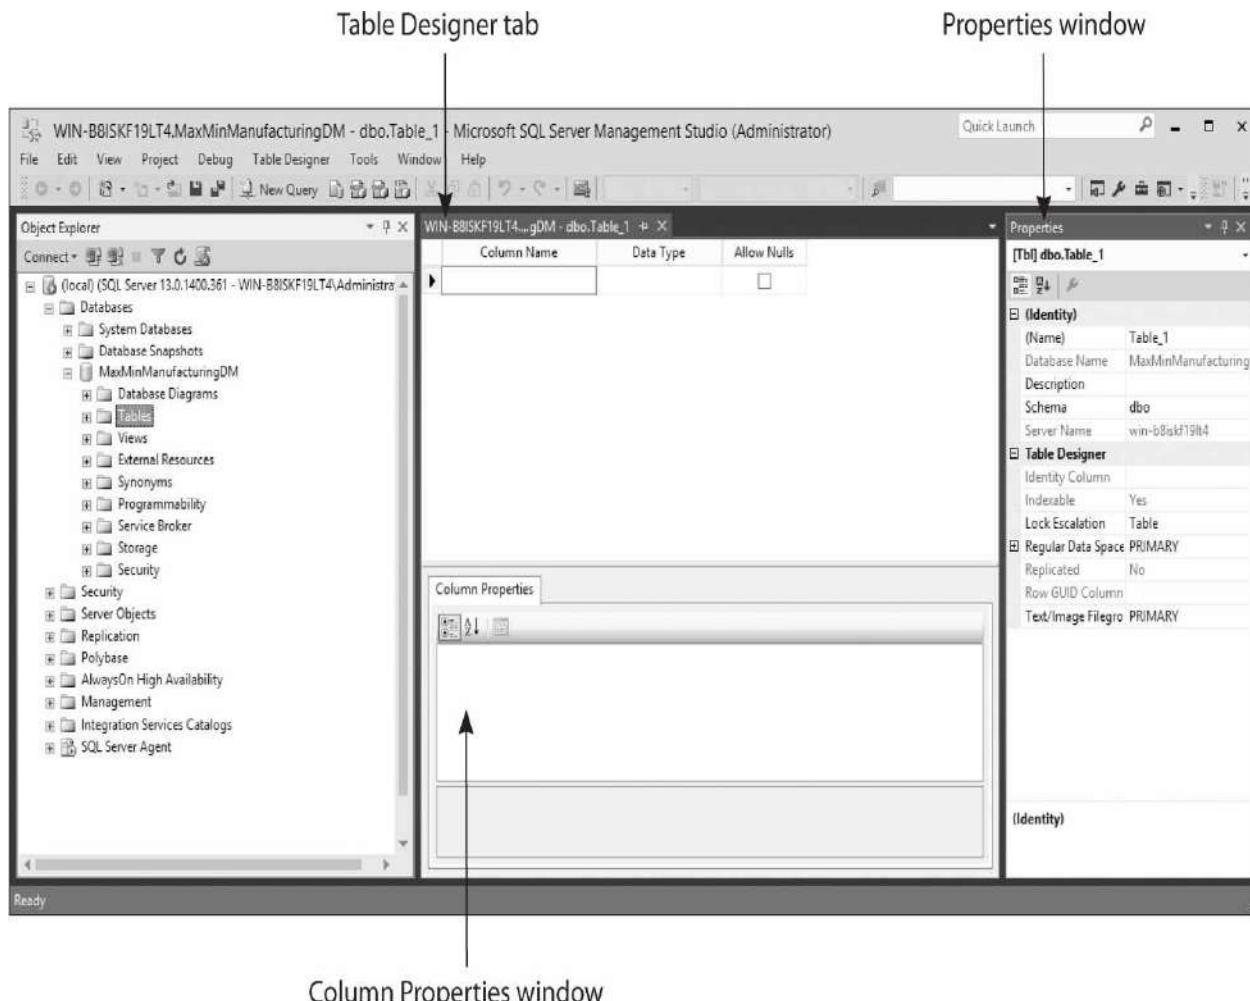

Figure 6-21 The SQL Server Management Studio ready to create a table
6. Expand the Databases folder, and expand the MaxMinManufacturingDM database entry. Right-click the Tables folder, and select New | Table from the context menu. A Table Designer tab appears, as shown in Figure 6-21 .
7. We use both the Properties window and the Column Properties window as we create our tables. If the Properties window is not visible, as in Figure 6-21, select Properties Window from the View menu. Be sure to note whether the entries in the following steps are being made in the Properties window or in the Column Properties window.